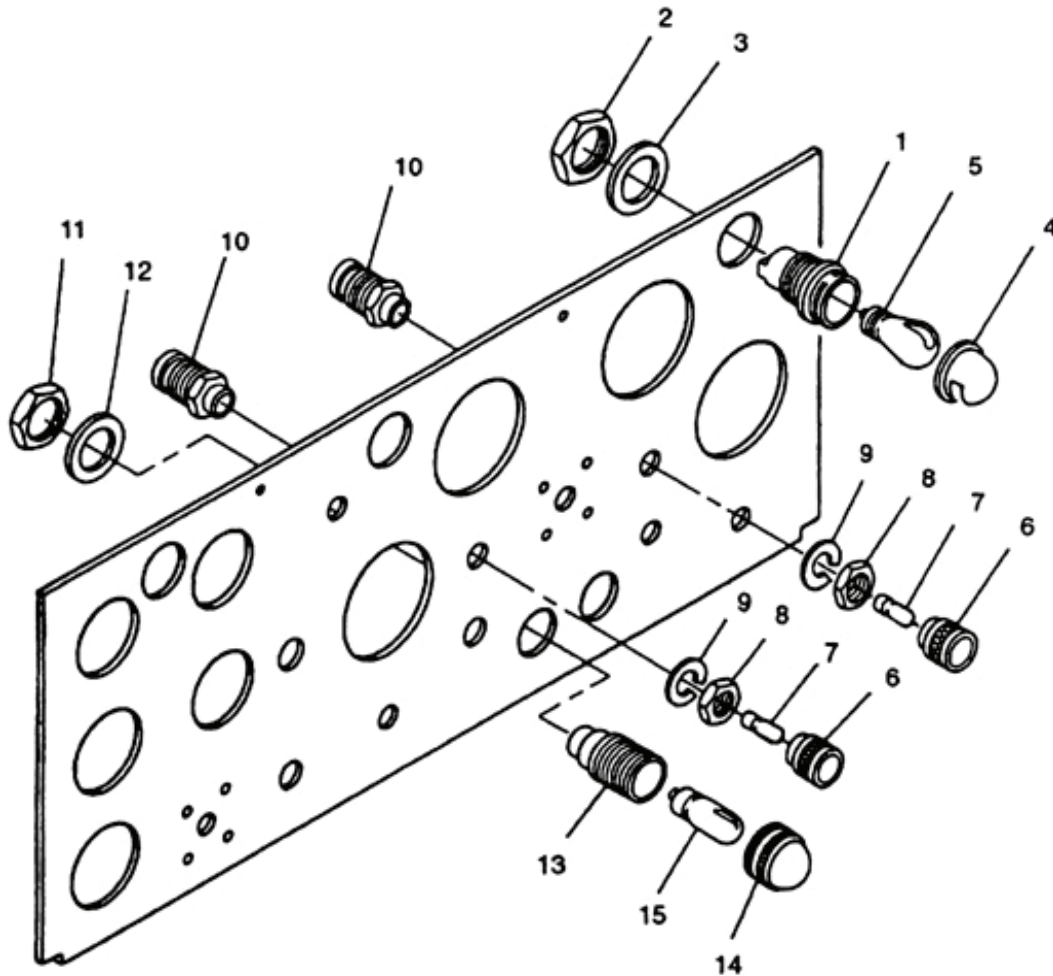

Figure 2-11. Control Panel Lights.
- d. Tag and disconnect panel light (1, Figure 2-11) electrical leads.
- e. Remove nut (2) and washer (3).
- f. Remove panel light (1) from control panel.
- a. Remove panel light directional cap (4, Figure 2-11) from panel light housing (1).
- b. Remove panel light bulb (5).
- a. Install panel light bulb (5, Figure 2-11) into panel light housing (1).
- b. Install panel light directional cap (4).
- a. Insert panel light (1, Figure 2-11) into control panel.
- b. Install washer (3) and nut (2).
- b. Press in lamp holders (6, Figure 2-11) and check that lamps are illuminated.
- c. Perform steps d thru g below if lamp (7) fails to extinguish.
- e. Set multimeter for DC volts and check for voltage at terminals 1 and 3 on receptacle (10).
- d. Tag and disconnect electrical leads to light receptacles (10, Figure 2-11).
- e. Remove lamp holders (6), nuts (8), lock washers (9), and receptacles (10) from control panel. Discard lock washers (9).
- f. Remove lamps (7) from lamp holders (6), if necessary.
- a. Install press-to-test light receptacles (10, Figure 2-11) in control panel with new lock washers (9) and nuts (8).
- b. Install lamps (7) in lamp holders (6), if removed.
- c. Install lamp holders (6) on receptacles (10).
- d. Tag and disconnect synchronizing lights (13, Figure 2-11) electrical connections.
- e. Remove nuts (11) and washers (12).
- f. Remove synchronizing lights (13) from control panel.
- g. Unscrew lenses (14) and remove lamps (15) from light receptacles (13).
- a. Insert synchronizing lights (13, Figure 2-11) into control panel.
- b. Install washers (12) and nuts (11).
- e. Install lamps (15) and screw lenses (14) on light receptacles (13).